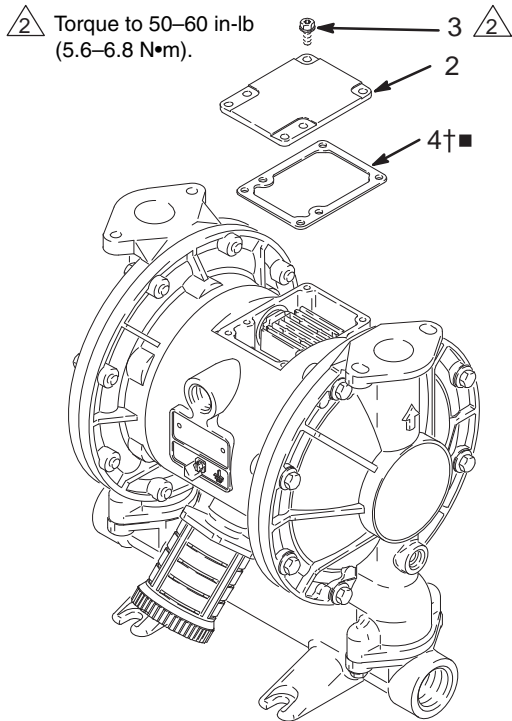

Fig. 8
2. With a Torx (T20) screwdriver or 7 mm (9/32") socket wrench, remove the six screws (3), air valve cover (2), and gasket (4). See Fig. 8.
10. Align the valve gasket (4†■) and cover (2) with the six holes in the center housing (1). Secure with six screws (3), using a Torx (T20) screwdriver or 7 mm (9/32") socket wrench. Torque to 50–60 in-lb (5.6–6.8 N•m). See Fig. 8.